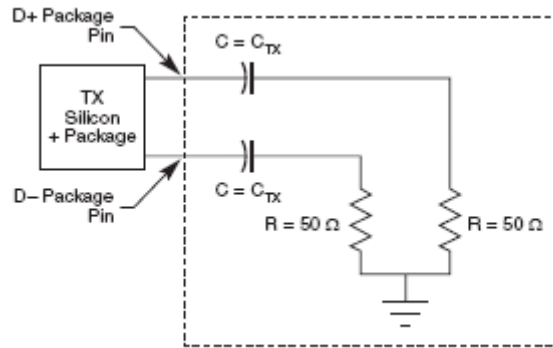

Figure 51. Compliance test/measurement load
1. Specified at the measurement point into a timing and voltage compliance test load as shown in Figure 51 and measured over any 250 consecutive TX UIs.
2. Specified at the measurement point into a timing and voltage compliance test load as shown in Figure 51 and measured over any 250 consecutive TX UIs.
1. Specified at the measurement point and measured over any 250 consecutive UIs. The test load in Figure 51 must be used as the RX device when taking measurements. If the clocks to the RX and TX are not derived from the same reference clock, the TX UI recovered from 3500 consecutive UI must be used as a reference for the eye diagram.
2. Specified at the measurement point and measured over any 250 consecutive UIs. The test load in Figure 51 must be used as the RX device when taking measurements. If the clocks to the RX and TX are not derived from the same reference clock, the TX UI recovered from 3500 consecutive UI must be used as a reference for the eye diagram.
The AC timing and voltage parameters must be verified at the measurement point, as specified within 0.2 inches of the package pins, into a test/measurement load shown in Figure 51.